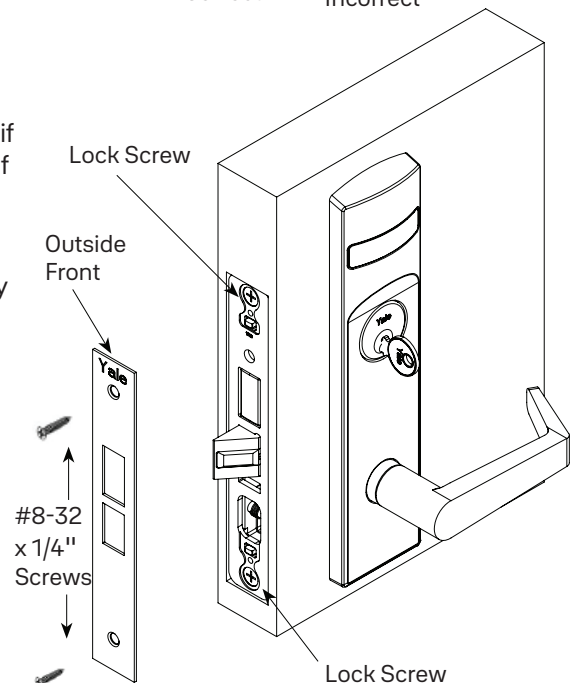

Figure 11
1. Tighten the two (2) lock screws completely: (Figure 11)
2. Attach outside front with two (2) flat head screws #8-32 x 1/4".